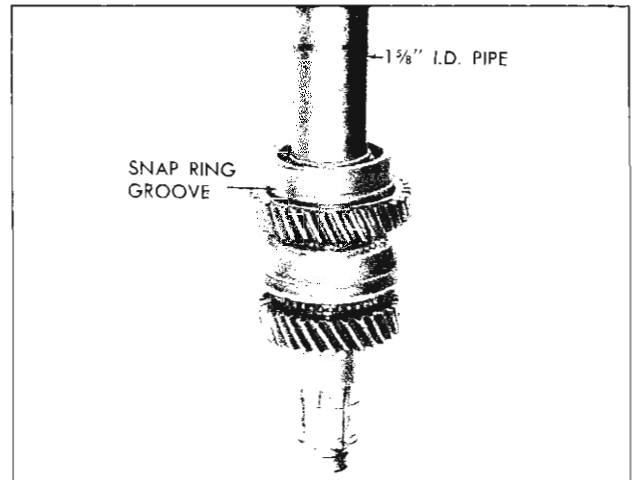

Fig. 18M—Installing Rear Bearing
4. Using 1 $\frac{1}{8}$ " I. D. pipe cut to a suitable length, press on the rear bearing with the snap ring groove toward the front of the transmission (fig. 18M). Firmly seat the bearing.